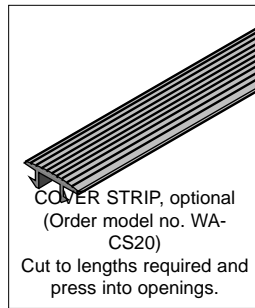

**Figure 8
8. Install casters with wrench included (Fig 8).